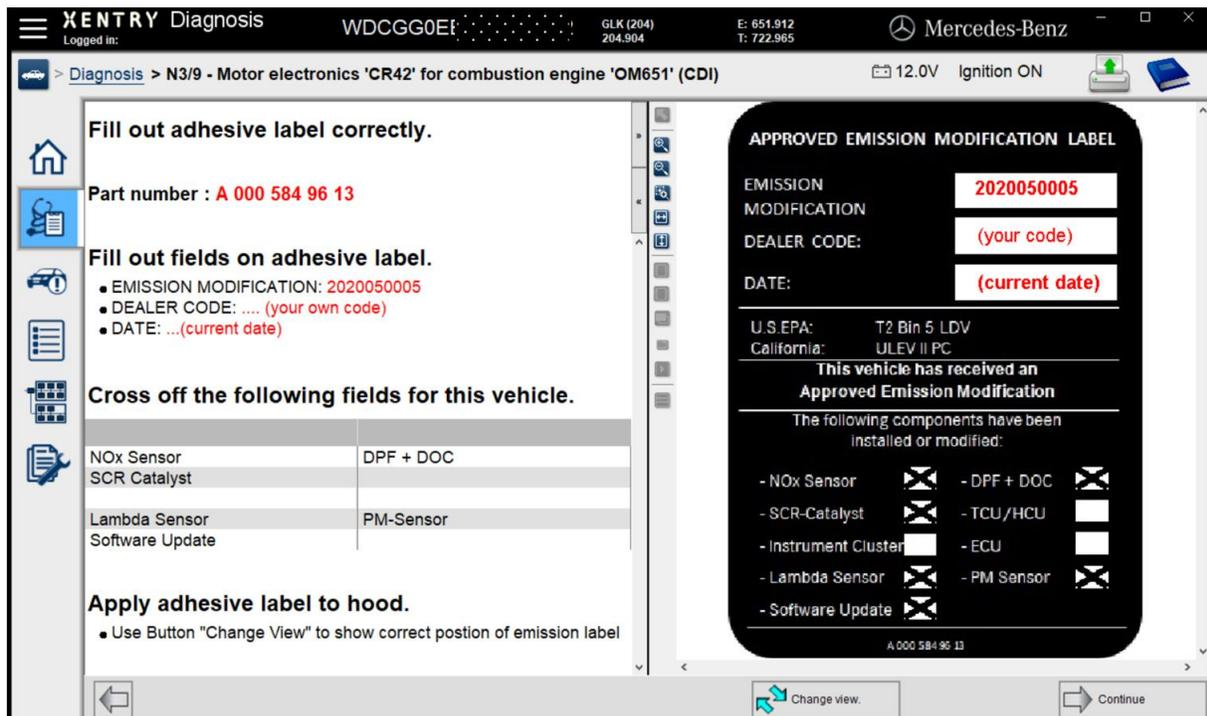

Figure 10
**i** The fields on the adhesive label must be filled out correctly. Please use black permanent marker. Refer to (Figure 10) within the Xentry procedure